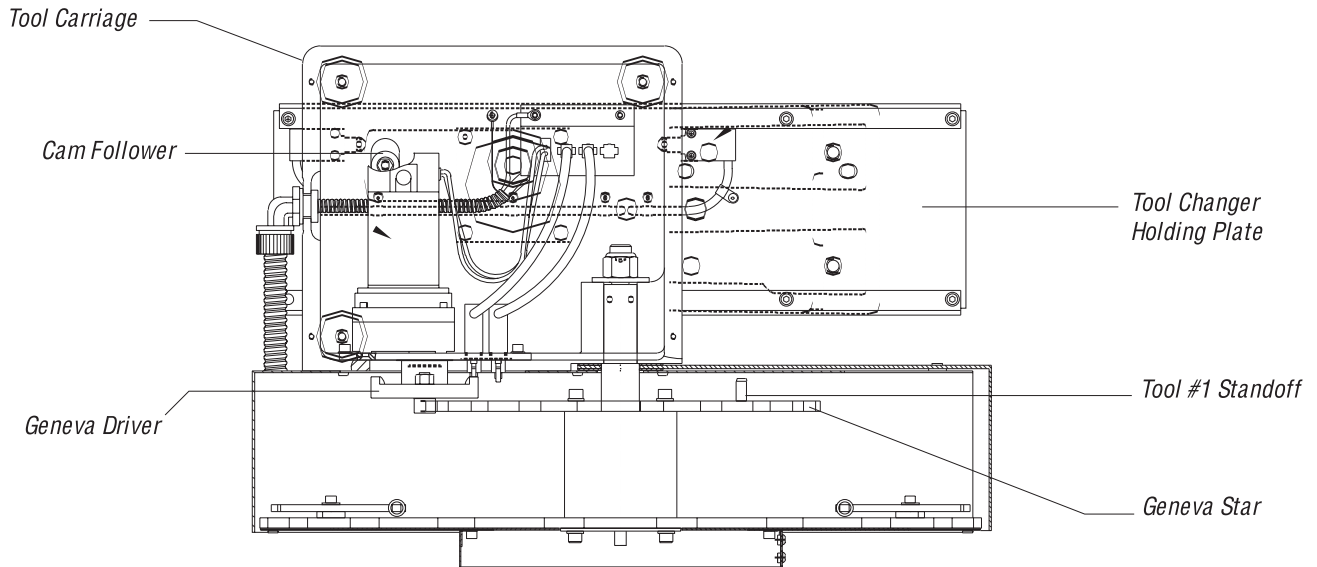

Figure 12-2. Automatic Tool Changer - Mechanical Assembly (Side View)
3. Remove the hex bolt that attaches the cam follower to the slip clutch (see Fig. 12-2).